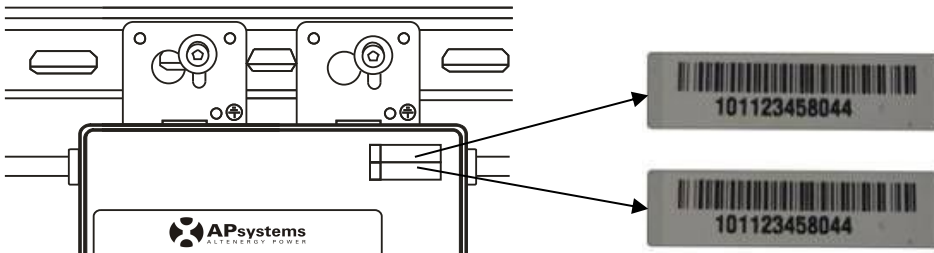

Figure 11
- a. Each APsystems Microinverter has removable serial number labels. Peel labels off, affix one to the respective location on the APsystems installation map, and fill in A,B in the label below (as Figure12) according to the layout on the roof (as Figure 11). Then affix another label to the PV module frame which is easy to see. The warranty cards can obtain from the appendix of this manual or APsystems website www.APsystems.com